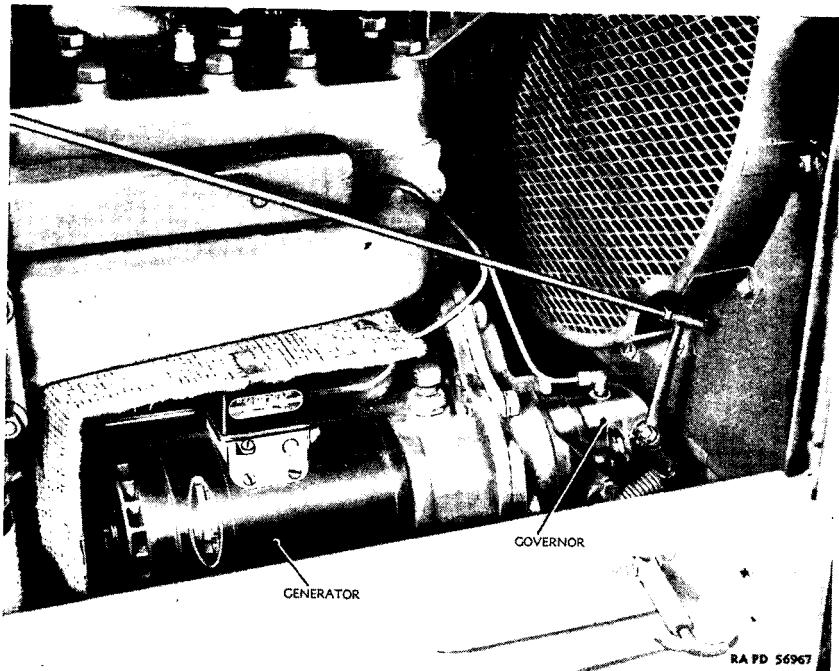

Figure 61—Battery-Charging Generator
a. The starting and ignition system consists of a 6-volt battery located in a tray bolted to frame cross members on the right-hand side of the unit, opposite the instrument panel; a battery-charging generator (fig. 61), on the right side of the unit under the manifold; a starting motor (fig. 71), on the left side of the engine, projecting through the bell housing; a distributor (fig. 66) mounted on a tachometer drive above the accessory drive; an ignition coil (fig. 65) bolted to the left side of the engine head, and the spark plugs. On the instrument panel are the ignition switch, the starter switch, and the tachometer head.
(1) STARTING. The ignition switch on the instrument panel throws on the 6-volt current in the ignition line. The starter switch on the panel makes the connection to the starting motor which turns over the engine.
(2) IGNITION. The battery circuit furnishes the electric spark that ignites the mixture in the cylinders. The ignition switch connects the battery line to the ignition coil, which transforms the 6-volt current to the high voltage required to produce the hot spark necessary for cylinder ignition. The distributor makes the succession of momentary contacts that pass the high-voltage current to the spark plugs in the proper firing order.
(3) LIGHTING. The battery line provides an auxiliary lighting circuit for use when the generator is not functioning. A 6-volt pilot light is located on the instrument panel, and a 6-volt receptacle is also provided there to receive the 6-volt trouble light carried in the tool box.
(3) INSTALL HOLD-DOWN CLAMPS. Adjust hold-down clamps at each end of battery, and fasten nuts and lock washers to hold clamps securely.
76. BATTERY-CHARGING GENERATOR (fig. 61).